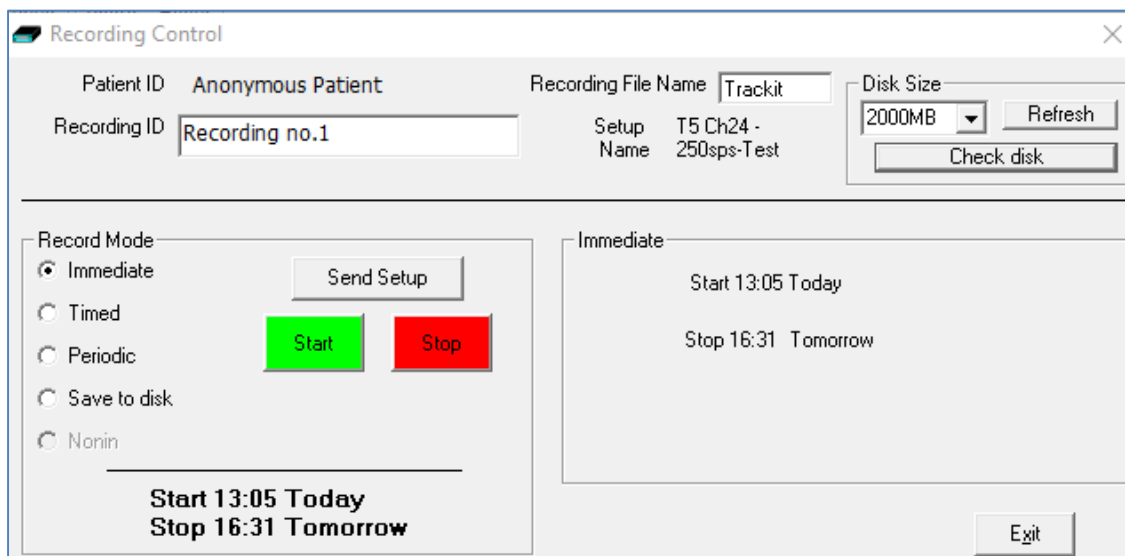

Figure 19: Recording Control panel
Note: If the patient details have not been entered beforehand, the Patient Details window (Figure 18 or Figure 19) will appear first.
9. The Recording Control panel (Figure 19) will appear.
The Recording Control panel provides additional options when recording to the memory card on the amplifier. These options are not applicable when performing a PC recording. Click on the 'Setup Recording' button in the Trackit Control Panel to open the Recording Control dialog box (Figure 19). The Recording Control panel is also displayed by pressing the "Amb Rec" or "Dual Rec" button on the Home toolbar.
Immediate: the recording starts as soon as the Start button is pressed (Figure 19). Recording finishes when the Trackit is turned off, when the disk is full or when the recording is stopped.